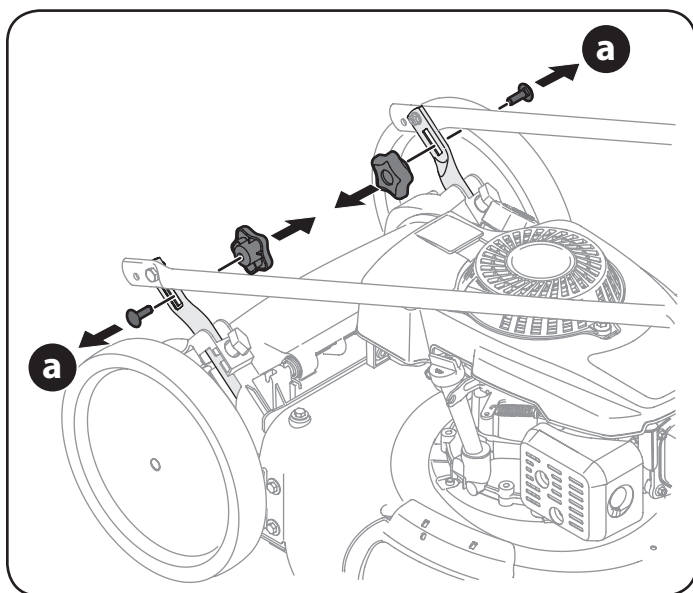

Figure 1
- a. Remove wing nuts and carriage bolts handle as shown in Figure 1. Do not loosen or remove adjacent hex head screws.